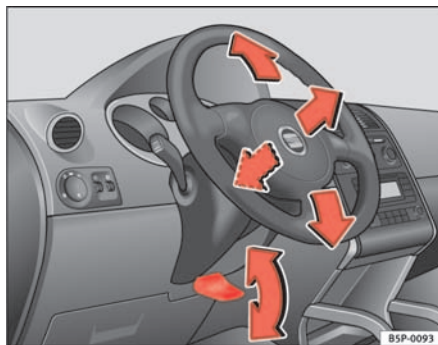

Fig. 128 Adjusting the steering wheel position
- Push the lever under the steering column ⇒ fig. 128 down ⇒ .